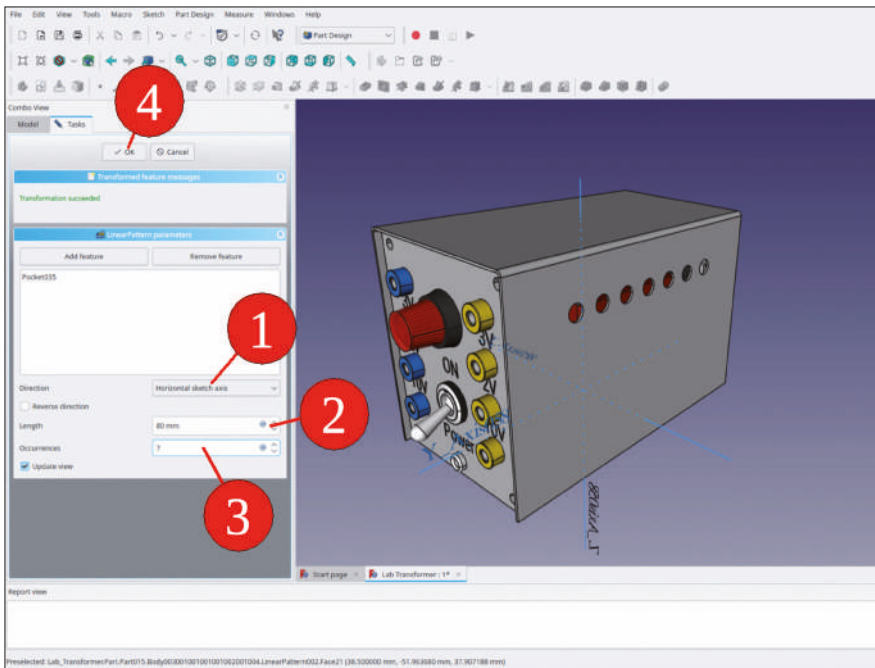

Figure 9-123
27. In the task window, set the length to 80 mm, and the number of occurrences to 7 (Figure 9-123). If you apply a linear pattern and it is not being shown as expected, try to select another axis from the 'Direction' control.